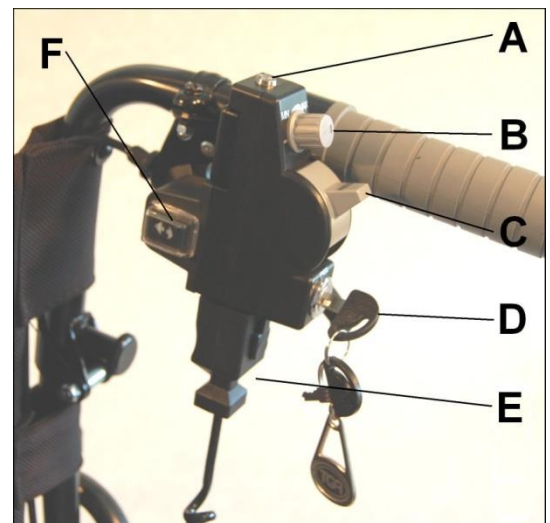

Fig 5
12. The next item to fit is the handlebar control (Fig 5). This unit performs many functions in addition to controlling the motor. It replaces the original wheelchair handlebar grips as well as providing extension handlebars for added comfort when controlling the chair. It is set for right hand use but can be reset for left hand operation.
13. Remove both handlebar grips from your wheelchair. These are probably glued on, so the best way of removal is to carefully cut the grip down one side with a sharp knife and peel off. Taking each new handlebar grip in turn, remove the rubber end caps and engage the long 4mm allen key T bar into the expander bolt located approximately half way down the inside of the new handlebar grip. Looking in the other end of the handlebar grip, you will see an expanding bolt, which is the retainer for locking the new handlebar grip onto the wheelchair handlebar. With the allen key T bar, unscrew the expander bolt so that the 4 expanding arms are unexpanded and flush with the internal barrel (until approximately a quarter of the bolt thread is left in the internal barrel). You may need to hold your finger on the barrel while this is taking place to prevent it turning. Keep the allen key T bar located in the expander bolt, as this makes fitting easier and now slide the new grip fitted with the control onto the right hand wheelchair handlebar (Fig 5). The new grips are obviously longer than the ones removed and this enables the original handlebars to be extended. This is sometimes useful when fitting the Powerpack to give more clearance for your feet. Now tighten the expander bolt as much as you can using the long allen key T bar (Fig 6). The control unit should now be in a vertical location (Fig 6). Repeat for the other handlebar grip. NB To ensure a positive fitting, at least 7.5 cm (3 inches) of the wheelchair handlebar must be covered by the new grip.